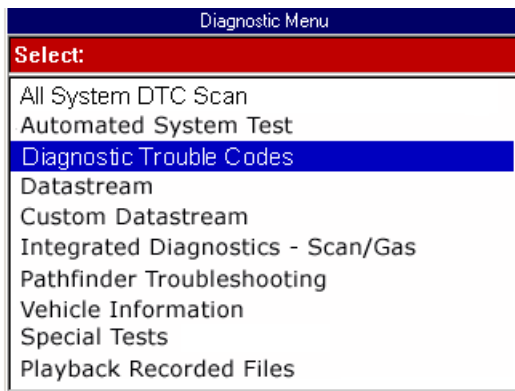

Figure 3.14: Diagnostic Menu Screen
- If either a Message screen or a Diagnostic Menu screen appears (Figure 3.14 on page 19), go to Step 4: Select the Diagnostic Function on page 19.